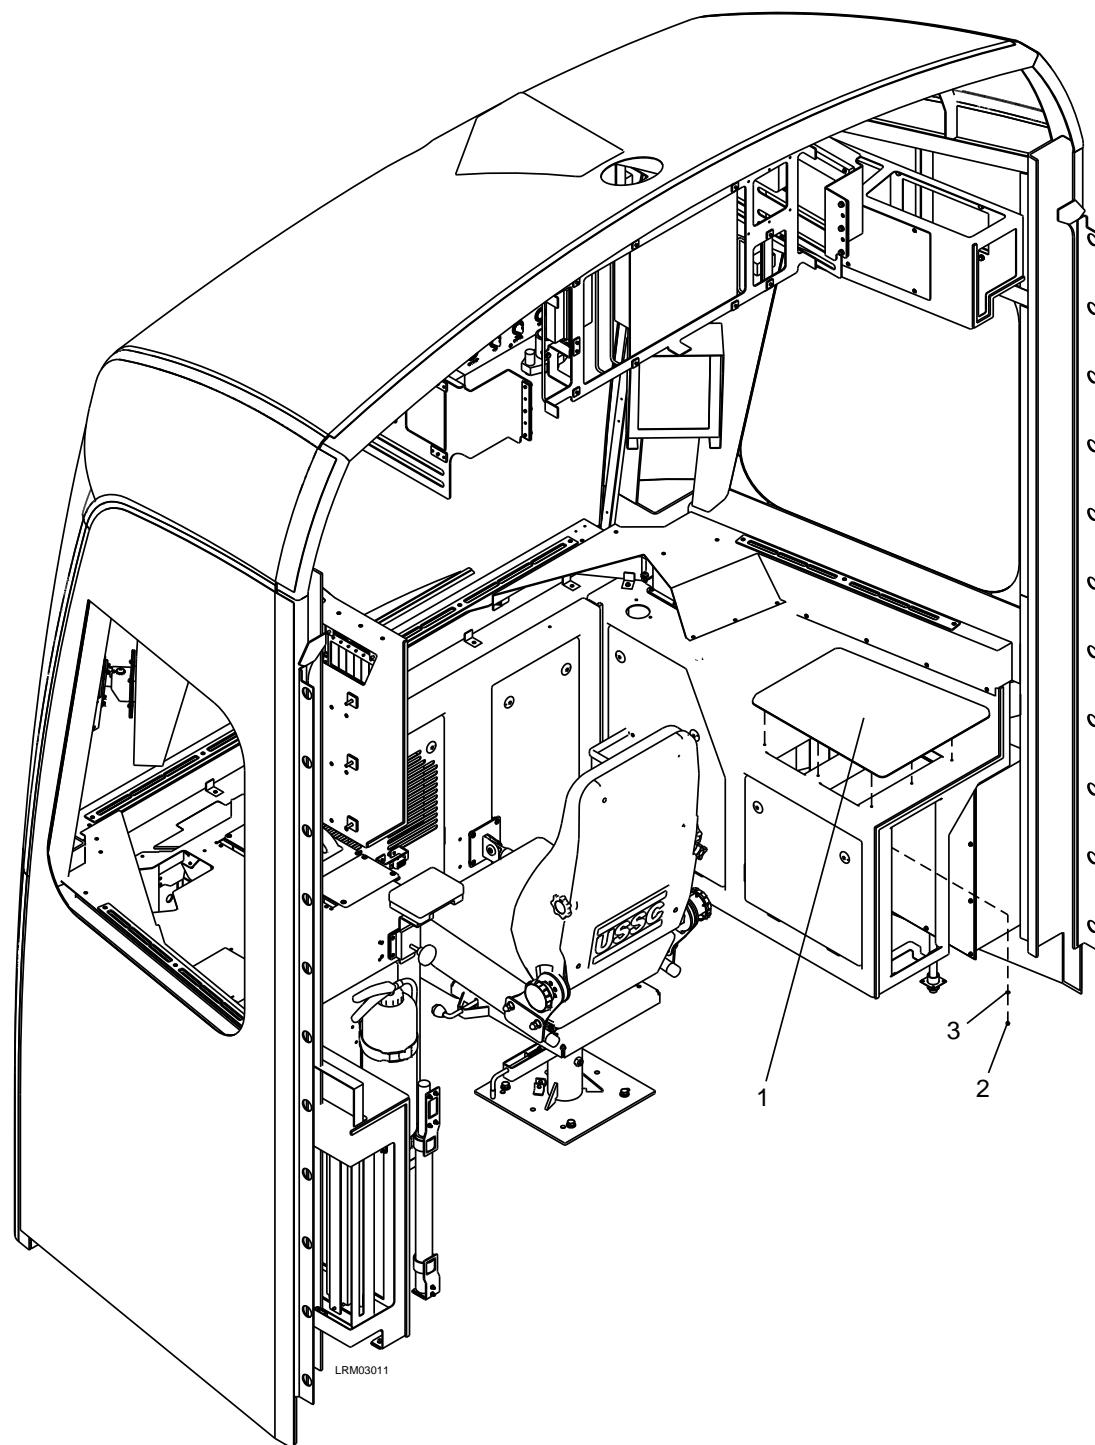

Figure 7-10: Trainer's Seat
1. Remove the nine M4 ESNA nuts (2) and M4 plain washers (3). See Figure 7-10.
2. Carefully remove the seat (1).